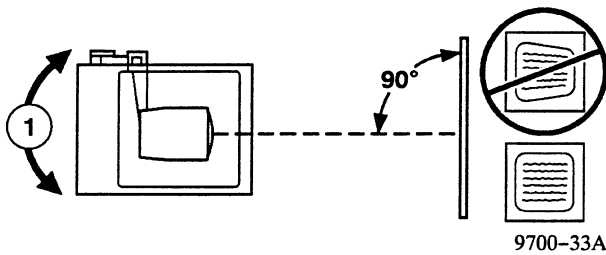

Figure 2-6. Position Projector To Screen
4. Rotate projector (1) until projected light beam is perpendicular (90°) to the screen surface. The height at the left and right sides of the projected image should be equal. Figure 2-6.